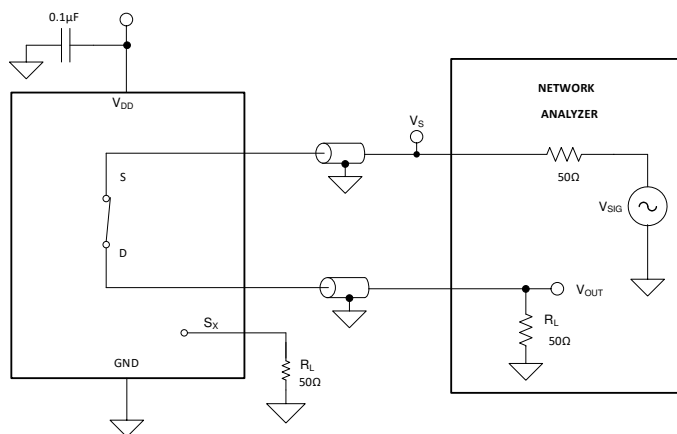

Figure 6-9. Bandwidth Measurement Setup
Bandwidth is defined as the range of frequencies that are attenuated by less than 3 dB when the input is applied to the source pin (Sx) of an on-channel, and the output is measured at the drain pin (D) of the device. Figure 6-9 shows the setup used to measure bandwidth.